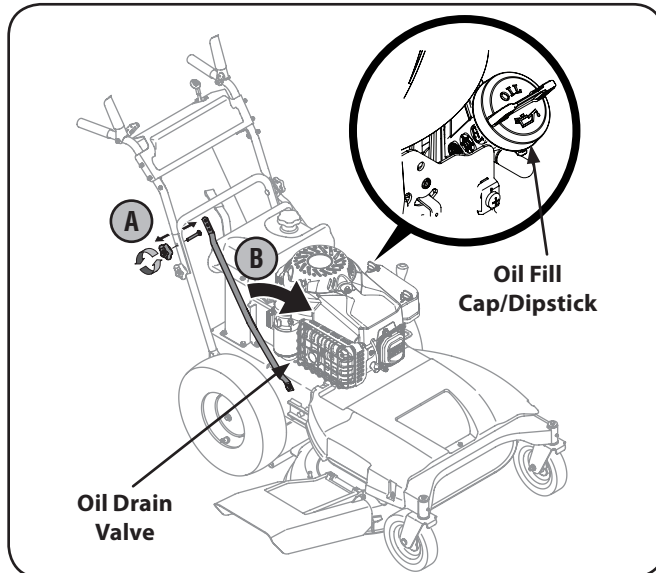

Figure 6-1
2. Remove the upper star knob (a) and carriage screw (b) on the right side of the handle. See Figure 6-1.
3. Pivot the support tube forward to allow room to connect the oil drain hose to the oil drain valve. See Figure 6-1.
5. Remove the oil fill cap/dipstick from the oil fill tube. See Figure 6-1.